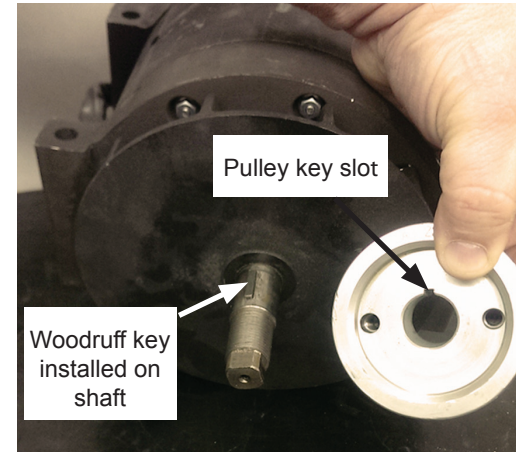

Figure 5
2. Align key slot on pulley with Woodruff key on shaft and slide pulley/fan onto shaft until it is seated on the housing. See Figures 5 and 6.